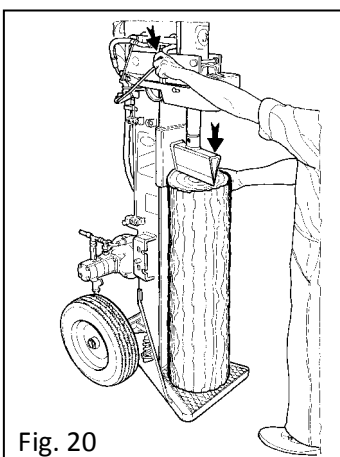

Fig. 20
- If the machine is set for cutting long pieces, the controls to be used are the two levers positioned on the upper part of the frame. Therefore, after positioning the log, push only one lever downwards (position 1) and hold the log still with one hand, until the blade touches the log and stops automatically. (Fig. 20)